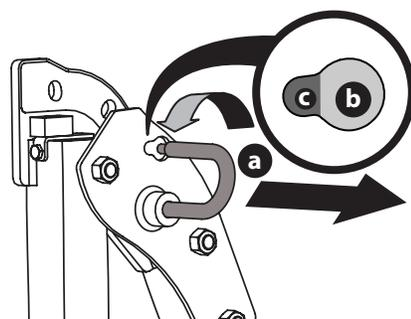

Figure 4
1. Pull slightly up on the upper ROPS to relieve any tension on the locking pin (a) and rotate the locking pin (a) from the LOCKED (b) position into the ADJUSTMENT (c) position (Figure 4). Repeat the procedure for the locking pin on the opposite side.